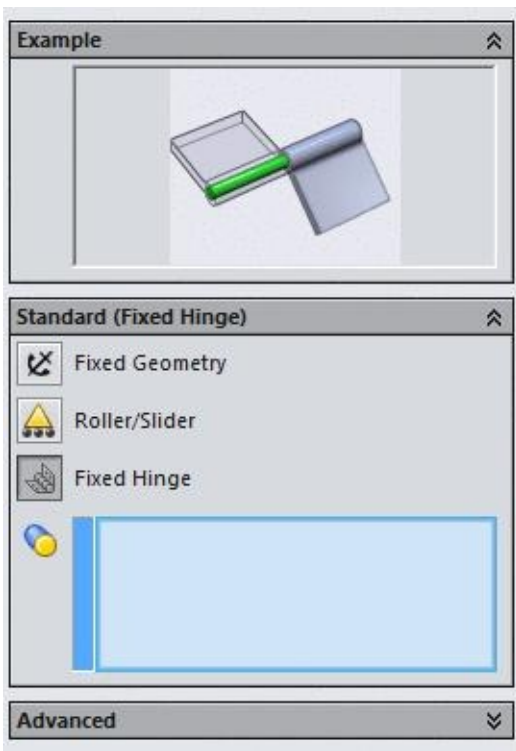

Figure-3. Fixture PropertyManager
- Click on the **Fixed Geometry** button from the tool list. The **Fixture PropertyManager** will be displayed; refer to Figure-3.